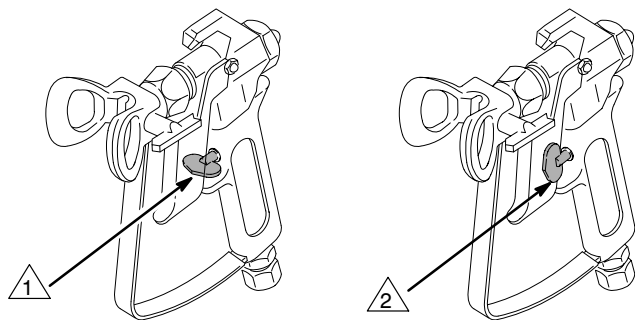

Fig. 3
2. **Close the pressure drain valve (50).**
4. **Put the suction tube (42) into the paint container.**
5. **Lower the pressure setting** by turning the pressure adjusting knob (B) fully counterclockwise.
6. **Disengage the gun safety latch.** See Fig 3.
- g. Release the trigger and engage the gun safety latch. See Fig 3.